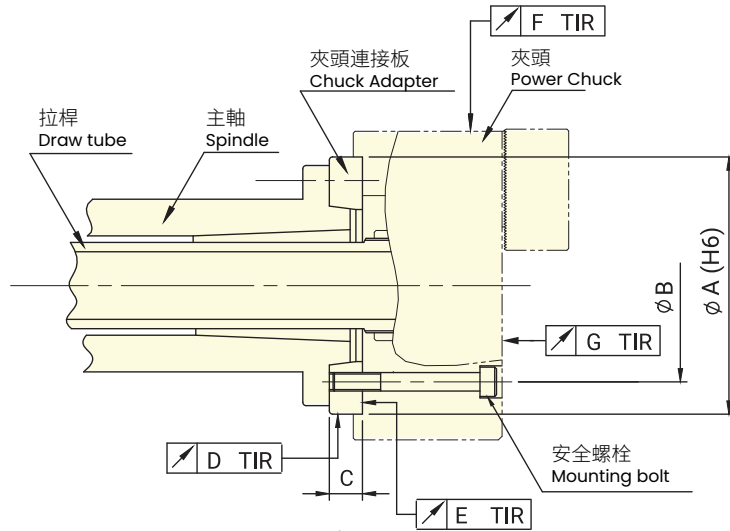

Fig.15
- Fig.15為JIS短錐度主軸圖。
- Fig.15 shows JIS short tapered spindle.